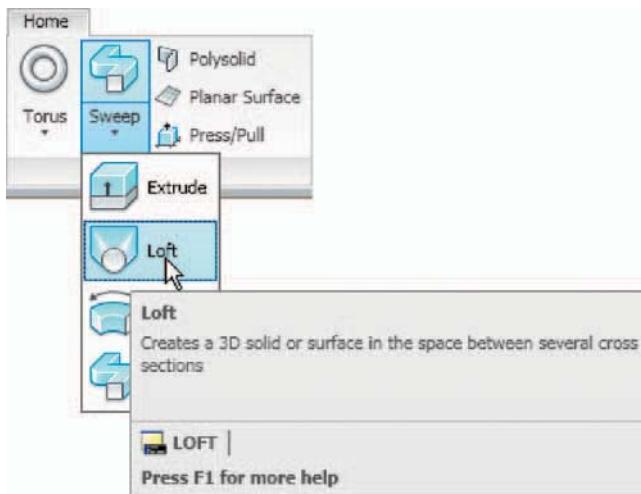

Fig. 12.42 Selecting the **Loft** tool from the **Home/Modeling** panel
3. Call the Loft tool with a click on its tool icon in the Home/Modeling panel (Fig. 12.42).